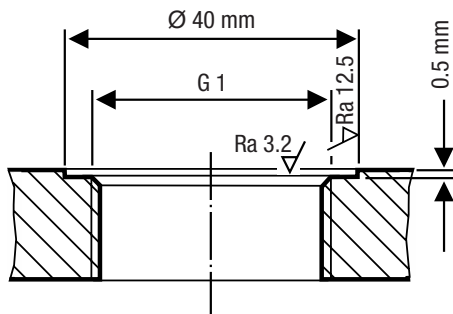

Fig. 11
- Inspect the sealing surfaces of the tank standpipe or flange cover to ensure they are perfectly machined, see Fig. 11.
Sealing surfaces must be perfectly machined, as shown in Fig. 11.